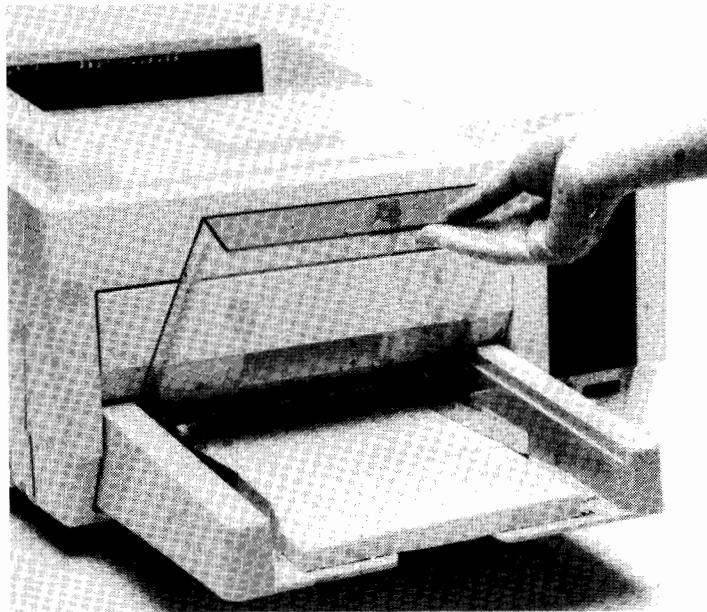

Figure 5-15. Opening Paper Tray Cover
**IF THE INDICATOR AT POINT (C) ILLUMINATES, CHECK THE FEEDER PORTION AS FOLLOWS:**
- a. Open the paper tray cover (figure 5-15).